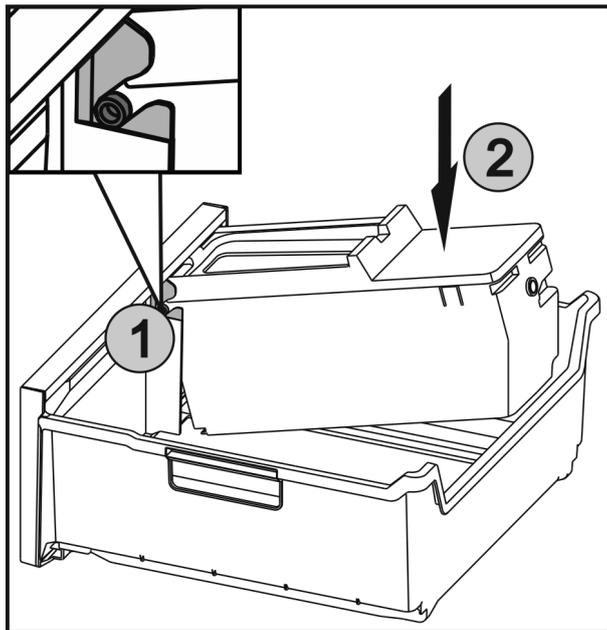

Fig. 53
- ▶ Push the axles Fig. 53 (1) on the EasyTwist-Ice into the guides and push the rear side Fig. 53 (2) until the lugs engage.